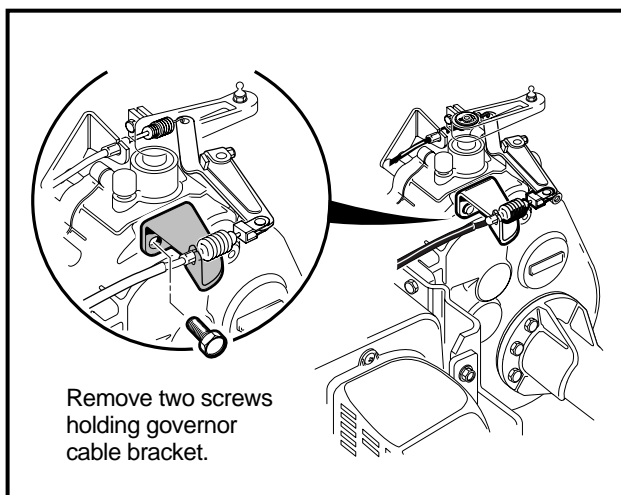

Figure 16-31 Governor Cable Bracket
18. Remove screws securing the governor cable bracket to transaxle (**Figure 16-31, Page 16-13**).